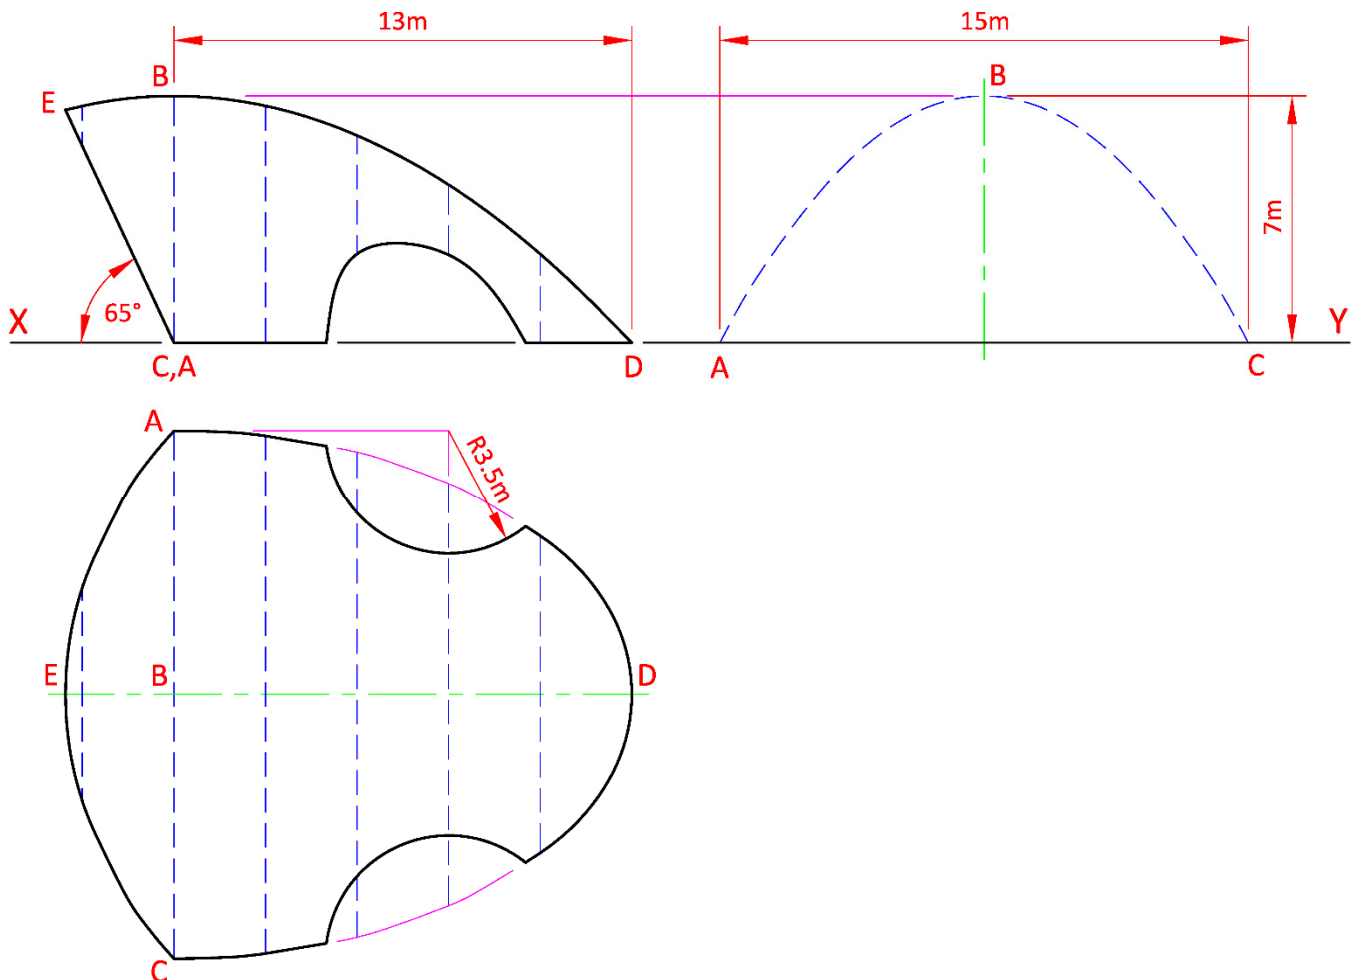

Fig. C-2
**C-2.** The image on the right shows an outdoor pavilion. The projections of a similar pavilion are shown in Fig C-2 below.